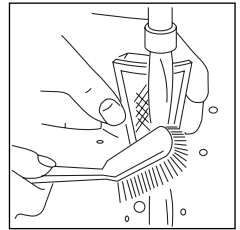

Fig.1
- Remove the filter and wash it with water fig.1 (refer to pag 5 "Removing the scale filter").
- Rinse under a tap while brushing with a soft brush (fig. 1).